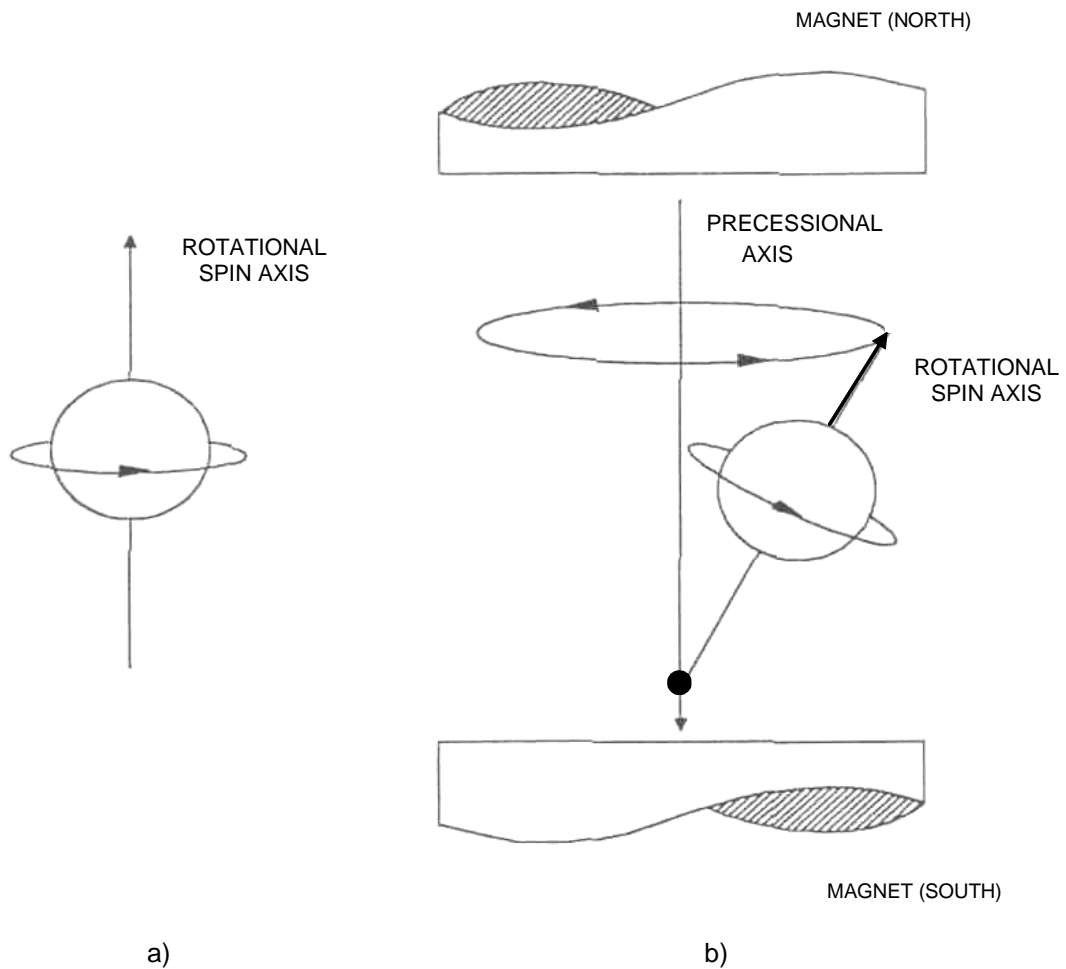
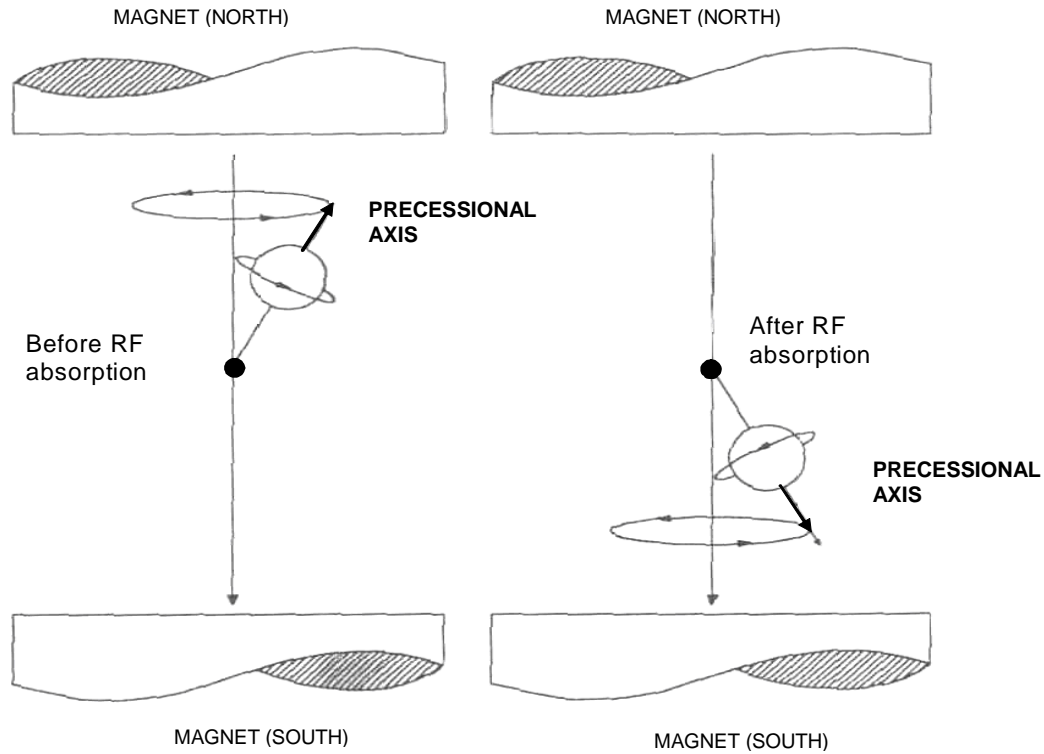

FIGURE 2.1 Precessional motion caused by external magnetic field
FIGURE 2.2 Energy states of precessing nucleus
Electrons and certain atomic nuclei behave as though they rotate about an axis, as seen in Fig. 2.1(a). This *angular moment* is called "spin". Nuclei that have an odd number of protons or neutrons exhibit this property. Examples are hydrogen, deuterium and nitrogen. Those that have an even number of protons and neutrons, such as carbon and oxygen do not. A spinning particle can be viewed in much the same way as a loop of wire carrying an electric current. Since the particle has an electric charge associated with it, the spin gives rise to a magnetic dipole, or *magnetic moment*, oriented along the axis of the spin.
When the spinning particle is placed in a steady, uniform magnetic field the field exerts a torque on the dipole. This force causes the particle to assume a *precessional motion* around the direction of the external field, similar to a gyroscope, as seen in Fig. 2.1(b). This orientation corresponds to a specific energy state. More than one orientation is possible, and the number of possible energy states depends upon the number of protons and neutrons in the particle. The single electron or proton can have two energy states – Fig. 2.2(ab).
If a high frequency alternating (AC) magnetic field is introduced the nucleus will be provided enough energy to undergo a transition from one energy state to another, as seen in Fig. 2.2(b). This condition is known as **Nuclear Magnetic Resonance (NMR)**.
As we have seen at Fig.2.2 – radio frequency (RF) energy, after be absorbed by nucleus during NMR – is falling to the lower value, what is an evidence of NMR signal.